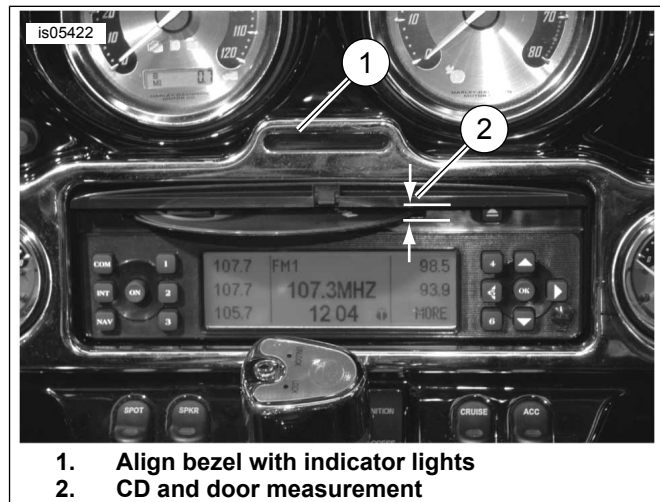

Figure 4. Install Radio/Gauge Bezel
4. See Figure 4. Install the bezel aligning the opening in the bezel (1) with the indicator lights and verifying that the CD door opens without rubbing against the bezel.
5. Measure the distance between the door and the CD (2). If the distance is 1/8 inch or more, the installation is complete. If the distance is less than 1/8 inch, proceed to Step 6.